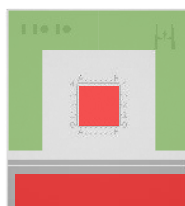

Figure 26: Avoid touching the QuChips with tweezers on the red area and only grab the QuChips from the green area.
- When holding the QuChip with tweezers, grip only the outer regions, which are marked in green in Figure 26. To ensure the sample area and the QuChip's nanostructures remain uncontaminated and undamaged, avoid handling the red-marked areas shown in Figure 26.